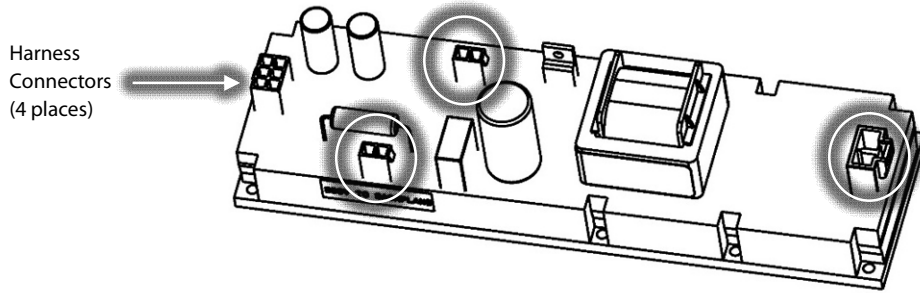

Figure 17 – DC-DC Harness Removal
31. Disconnect all wiring connections from the DC-DC. Refer to Figure 17 (DC-DC Harness Removal).
26. Reconnect all electrical connections to the DC-DC. Refer to Figure 17 (DC-DC Harness Removal).